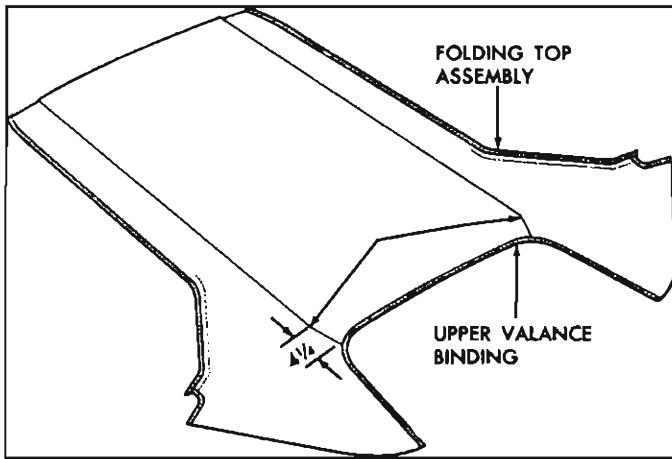

Fig. 55—Marking Top Material
21. Using a pencil, mark top material (mark should be approximately 1/2" in length) at deck seam 4 1/4" from edge of top material upper valance binding (fig. 55).
30. After cables have been filtered or pulled through hold-down pockets in top material, securely install front and rear cable attaching brackets to side roof front and rear rails (fig. 55).